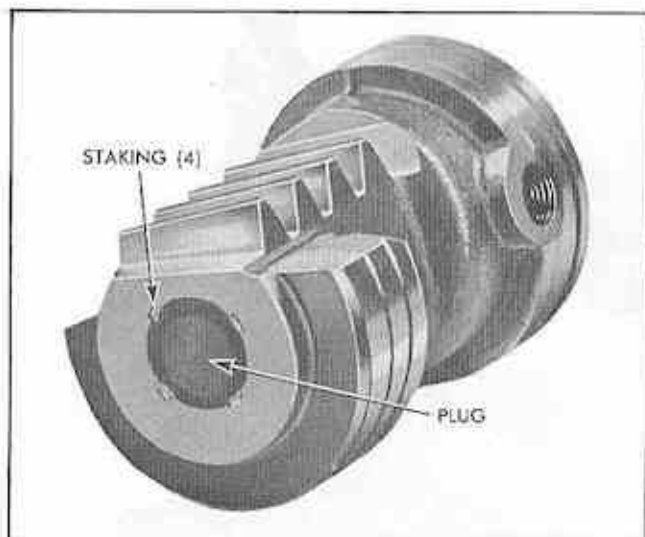

Fig. 47 Rack Piston End Plug Staked
2. To replace rack-piston end plug, press plug in flush with end of rack-piston and stake four places evenly (Fig. 47).